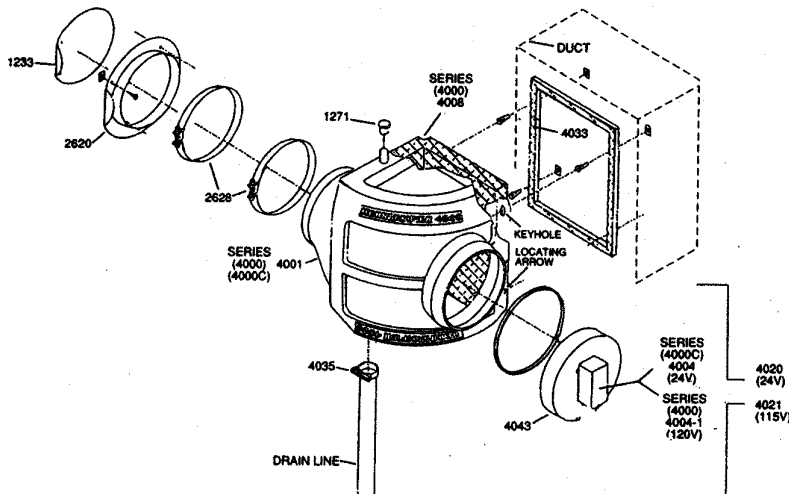

FIGURE 1 - INSTALLATION/HARDWARE
1. For best results, the unit should be located on the return air side of the system. However, if space does not permit, it can also be located on the supply (warm air) side of the system. Capacity will be reduced when mounted on the supply side. The bypass connection can be made to the left or right side of the unit. Regardless of where the unit is mounted (supply/return air) or left/right connection, the end cap must always be positioned so that the water connection is at the BOTTOM of the humidifier. See FIGURE 1.
2. To mount on **sheet metal duct** begin by drilling  $\frac{5}{32}$ " diameter holes and cutting opening as marked on template. Remove template, install the four (4) sheet metal screws with standoffs using spring nuts provided, then place the foam seal around the opening on the plenum. See sketch below. Remove end cap from the notched end of the humidifier. Check that evaporator pad is in the proper position, then "hang" the humidifier on the mounting screws. Unit may be hung with outlet flange pointing left or right as required. Note the directional arrows located on the housing. Remove the plastic protective cap from nozzle and then snap end cap onto the humidifier with the pigtail water connection at the bottom of the cap.